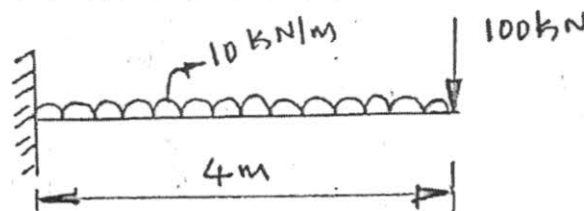

Figure Q7 (b)
b) Determine the maximum deflection in the uniform cross section of cantilever beam shown in Figure Q7 (b) by assuming beam as single element. Take $E=7 \times 10^9 \text{ N/m}^2$, $I = 4 \times 10^{-4} \text{ m}^4$.